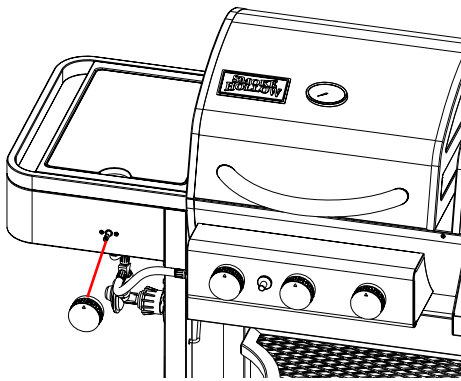

Fig. 29
*Locate:* (1) Control Knob
*Procedure:* Refer to Fig. 29, Place (1) Control Knob over the Side Burner Valve Stem, making sure to align the flat portion of the stem with the flat portion in the Knob and push the Control Knob onto the valve stem until it is firmly seated.